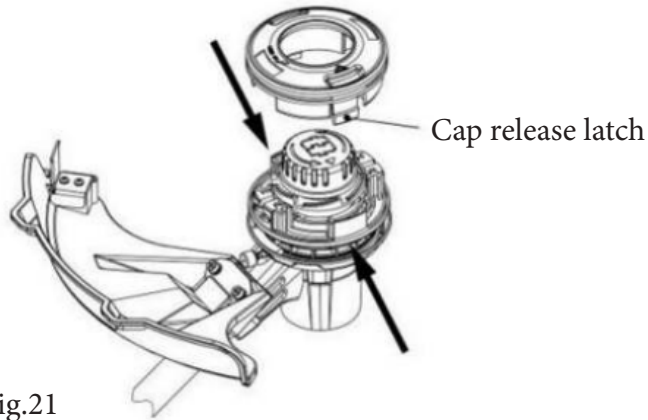

Fig.21
- b) Press the cap release latch on the cap and lift it out of the spool holder (Fig.21).